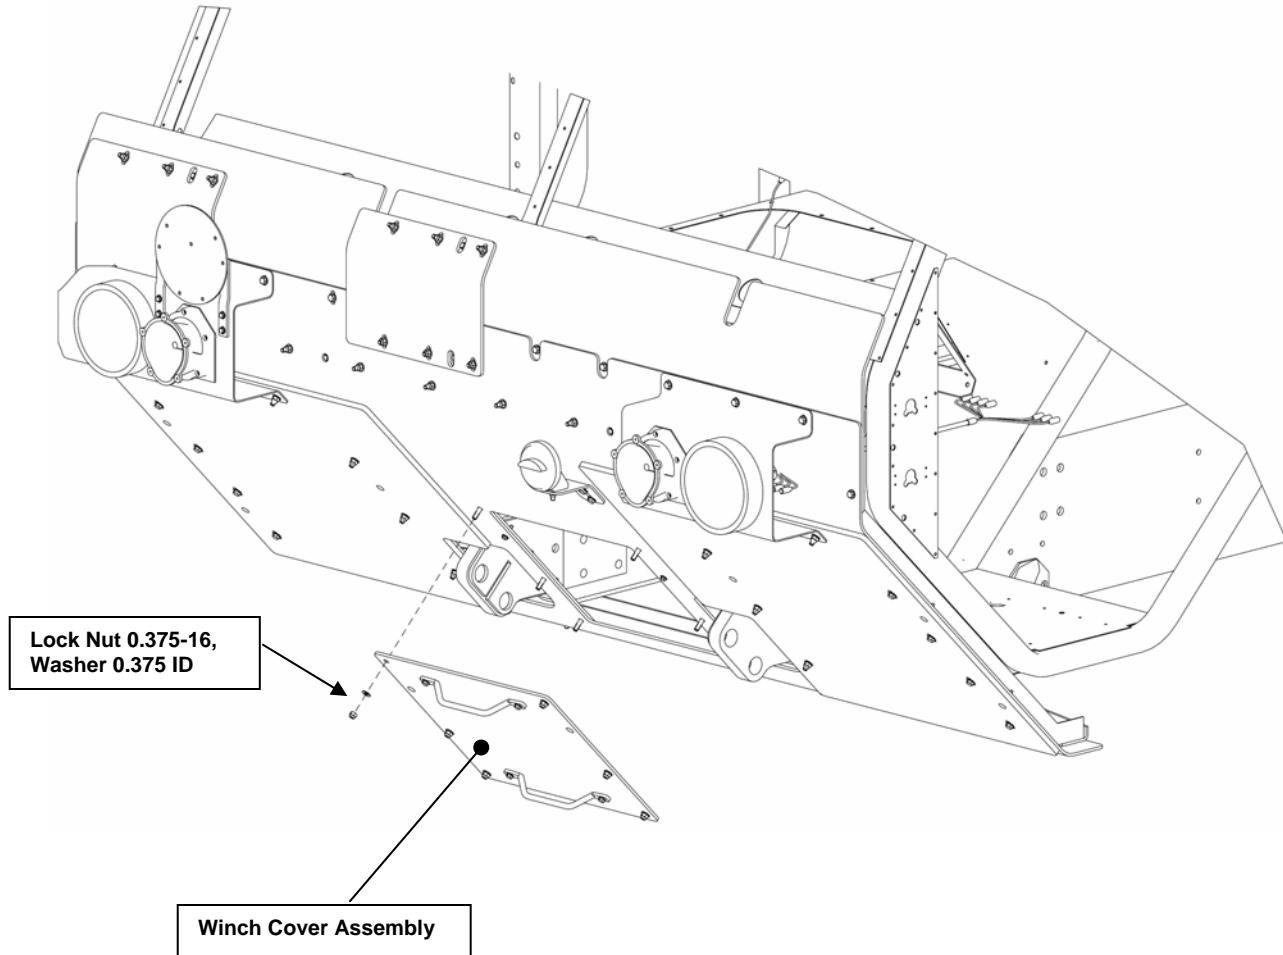

Figure 55. Winch Cover installation.
nn) Install the Winch Cover Assembly using six (6) 0.375-16 hex nuts and washers (see Figure 55).